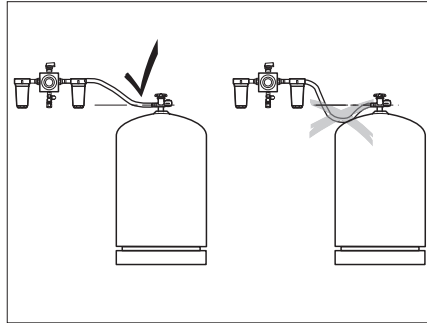

Fig. 87 Routing of the high-pressure hoses
- ▷ When routing the high-pressure hoses ensure that the hoses rise continuously (Fig. 87).